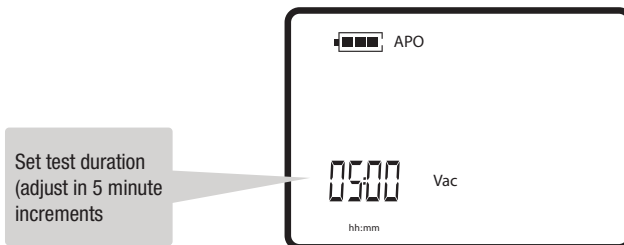

Figure 16
7. Press **SET** to advance to Vacuum Decay Test –Time Set Screen (**FIG 16**).